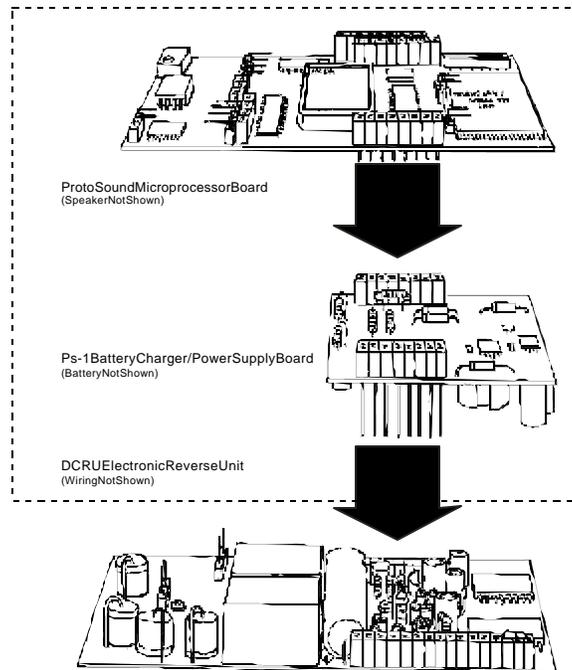
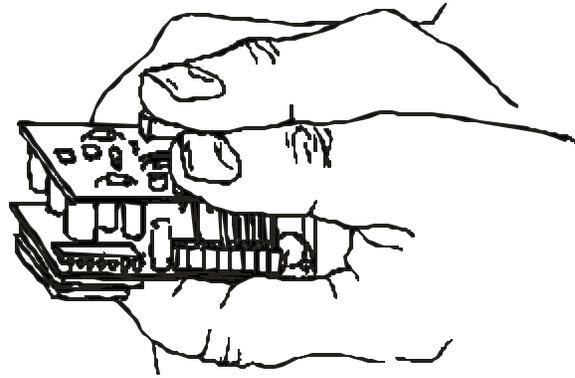

Figure 12: The ProtoSound Digital Sound & Train Control System
Figure 17: Pressing The Boards Together
reverse unit is to press the boards together with both hands, one hand on each side of the boards. You should hear a snap from each side as the two boards go together. The PS-1 board should sit just above the reverse unit as shown in Figure 12. If you are having difficulty, separate the PS-1 board from the ProtoSound board and press together as shown in Figure 17.
5) If you separated the ProtoSound board from the PS-1 board, carefully press the ProtoSound top board into the socket pins on the PS-1. This should also be a snug fit, but a little easier to insert since the socket holes were already spread. Make sure that the ProtoSound board is correctly positioned since it can be inserted incorrectly in the socket in a backwards position (rotated 180°). The ProtoSound board is in the correct position if the ProtoSound board lines up with the DCRU reverse unit as shown in Figure 12. Also watch to see that all the connector pins are in their own socket; *you do not want the ProtoSound board to be offset by one or two pins since this would cause damage to the circuit board.*